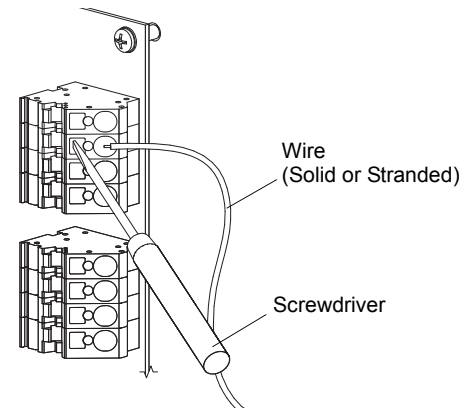

Figure 6: Backplane Load Wiring Terminals
- Step 6. Route LOAD HOT wires to their individual terminals located on the Backplane PCB (see **Figure 6** below). Strip 7/16 inch of insulation and terminate in spring-cage terminals using small flat screwdriver (no torque setting required).
CAUTION: Do not attempt to "push" load wires into spring-cage terminals without first inserting the screwdriver into the appropriate slot (**Figure 6**). *Failure to install load wires as directed may damage the spring-cage connector, and may void manufacturers warranty!*